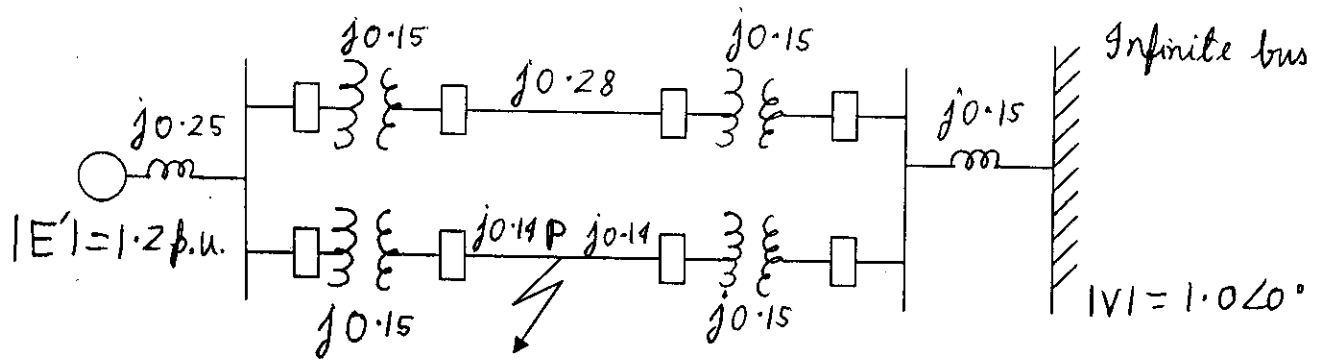

Fig. 6
b) Two power systems A and B each having a regulation (R) of 0.05 pu on their respective capacity bases and a stiffness (damping co-efficient) of 0.75 pu are connected through a tie-line, initially carrying no power. The capacity of system A is 2000 MW and that of system B is 3000 MW. If there is an increase in load of 200 MW in system A, what is the change in steady state and power transfer. 10
6. Find the critical clearing angle for the system shown in Fig. 6 for a three-phase fault at the point P. The generator is delivering 1.0 p.u. power under prefault condition. 20